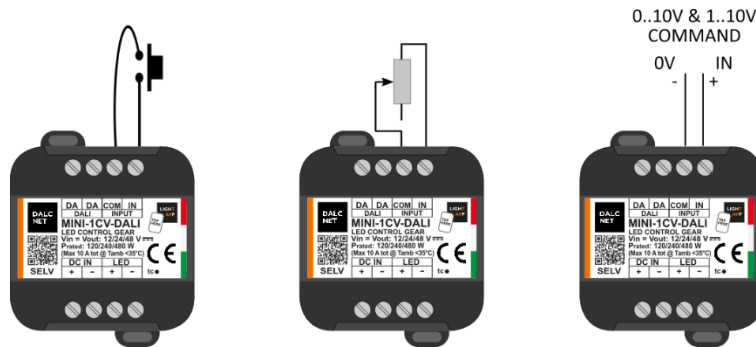

Figure 4: Local Command wiring diagram
2. **Local control wiring:** connect the N.O. button, the 0/1-10V signal or the 10 k Ω potentiometer to the "COM" (negative) and "IN" (positive) terminals of the "INPUT" respecting one of the wirings shown in the connection diagram in Figure 4.